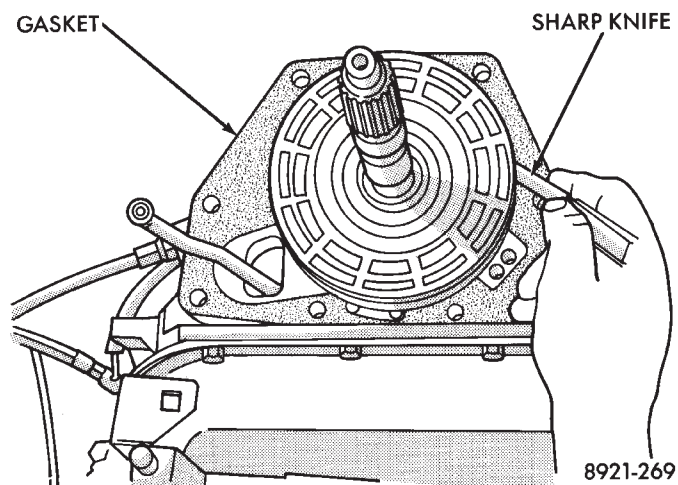

Fig. 15 Trimming Replacement Overdrive Case Gasket
(3) Cut out old case gasket around piston retainer with razor knife.
(4) Use old gasket as template and trim new gasket to fit (Fig. 15).